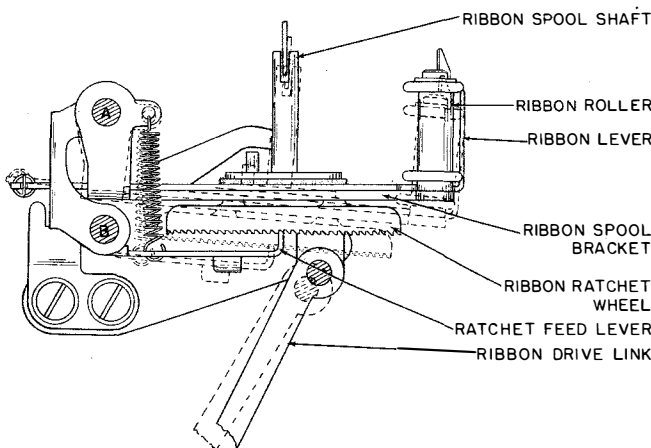
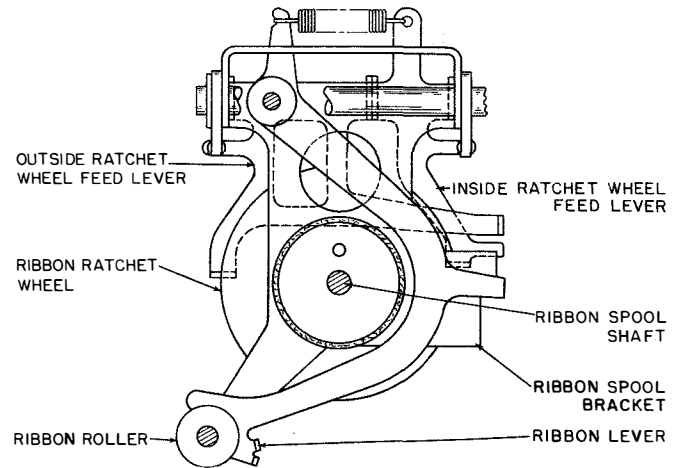

Figure 2-54. Ribbon Mechanism, Left Side
Figure 2-55. Ribbon Mechanism, Left Top View
(1) POSITIONING.—The left and right ribbon feed mechanism oscillates in a vertical plane with each revolution of the type box clutch. They are driven by ribbon drive links which are attached to the main side levers (figure 2-54). At its uppermost position, the ribbon mechanism positions the ribbon relative to the line which is being printed. After each character is printed, the ribbon mechanism is dropped downward (dashed outlines, figure 2-54), together with the type box, in order that the last character printed may be viewed. The ribbon is held in place at the point of printing by a ribbon guide which is fastened to the rear of the type box carriage.
(2) FEEDING.—Each of the ribbon spool brackets has a ribbon ratchet wheel attached to the shaft on which the ribbon spool is mounted. The ribbon spool bracket (which supports the ribbon ratchet wheel, the ribbon spool shaft, the ribbon roller, and the ribbon lever) pivots about point A in figure 2-54. The inner and outer ratchet feed levers pivot about point B, and are held against the ribbon ratchet wheel by their springs. As the ribbon drive link moves the ribbon spool bracket upward, the outer ratchet feed lever engages the ratchet teeth and pulls the ratchet wheel (figure 2-55). The inner ratchet feed lever skips over the saw tooth shaped teeth. As the ribbon drive link moves the ribbon spool bracket downward, the inner ratchet feed lever engages the ratchet teeth and pushes the ratchet wheel. The outer ratchet feed lever skips over the teeth. The teeth on the left and right ribbon ratchet wheels face in opposite directions so that, when their feed levers are engaged, the left ribbon spool turns clockwise, and the right ribbon spool turns counterclockwise. In order for the ribbon to feed from one spool to the other, only one set of inside and outside ratchet feed levers may engage their ribbon ratchet wheel at a time. Also, when the ribbon has become completely unwound from one spool, it is necessary to reverse its direction so it can rewind. This is accomplished automatically by disengaging one set of ratchet feed levers and engaging the other set. While the ribbon is passing from the left spool to the right spool, the right set of ratchet feed levers are engaged. The left set are held disengaged against the pull of their springs by the left ribbon feed